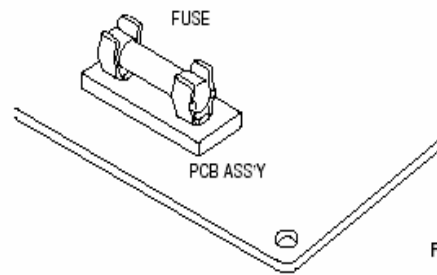

Fig. 5
- Remove PCB Ass'y from electrical component box. (Fig. 5).